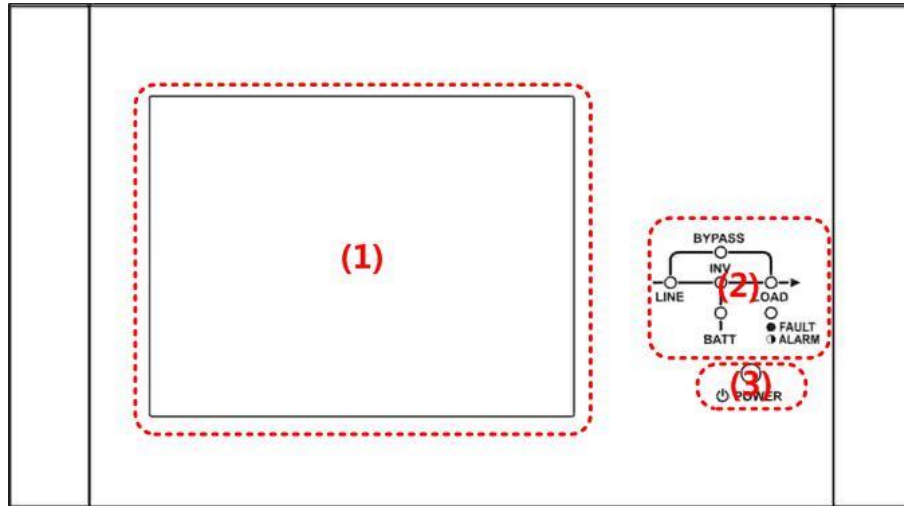

Figure 4-1 Control panel
This control panel and display description are located on the front door of the UPS. It is the USER control, monitoring of all measured parameters, UPS and battery status and alarms. The control panel and display description are divided into four functional areas: (1) LCD display, (2) LED indications, (3) Control key, (4) Audio Alarm, as shown in Figure 4-1.